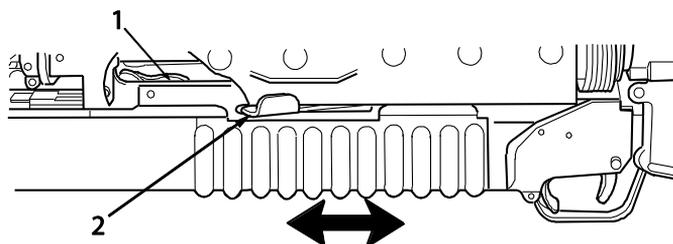

Figure 7. Barrel Test.
1. Move barrel (Figure 7, Item 2) forward and back to ensure barrel stop (Figure 7, Item 1) and barrel latch (Figure 7, Item 3) function.